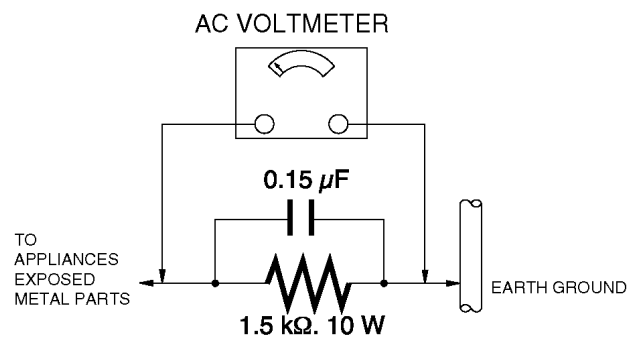

Figure 1
- Connect a 1.5 k Ω , 10 W resistor, in parallel with a 0.15 μ F capacitor, between each exposed metallic part on the set and a good earth ground , as shown in Figure 1.